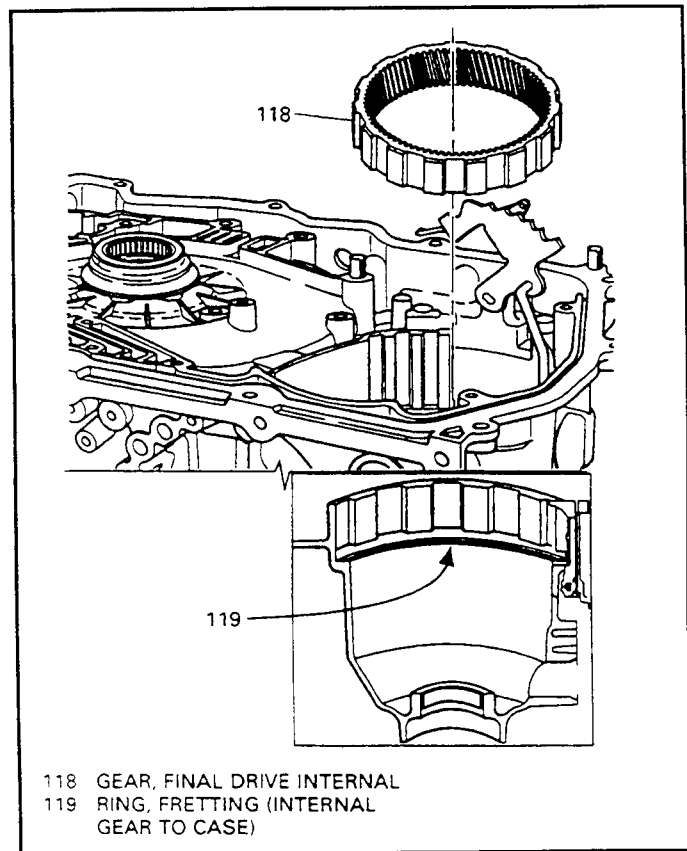

Figure 106
34. Install fretting ring (119) into the small groove in the transaxle case if it was removed, shown in Figure 106.
35. Install the final drive internal ring gear (118) into the transaxle case as shown in Figure 106.